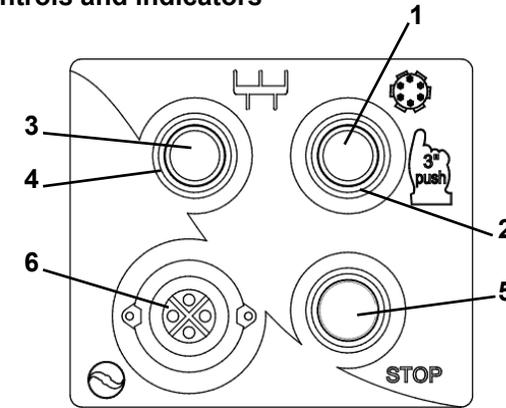

Fig. 3.1.1
3. Start the machine in kneading mode through button "3" (Fig. 3.1.1)
2. Start the machine in extruder mode through button 1 (Fig. 3.1.1)
5.2 - Verification of the efficiency of the emergency stop button (Fig. 3.1.1)
5.3 - Machine start-up (Fig. 3.1.1)
To start the machine, simply press the extrusion button (1) or the mixing button (3) Fig. 3.1.1, after properly connecting its plug to the power outlet.
5.4 - Machine stop (Fig. 3.1.1)
To stop the machine, press the stop button "5" Fig. 3.1.1.